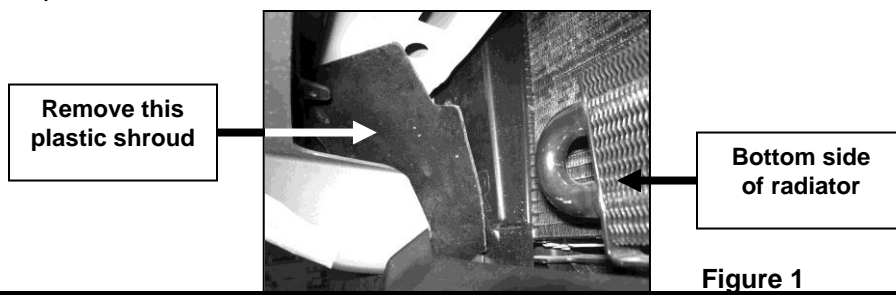

Figure 1
2. From underside of vehicle, remove the passenger side rubber shroud located by the bumper air inlet (Figure 1).